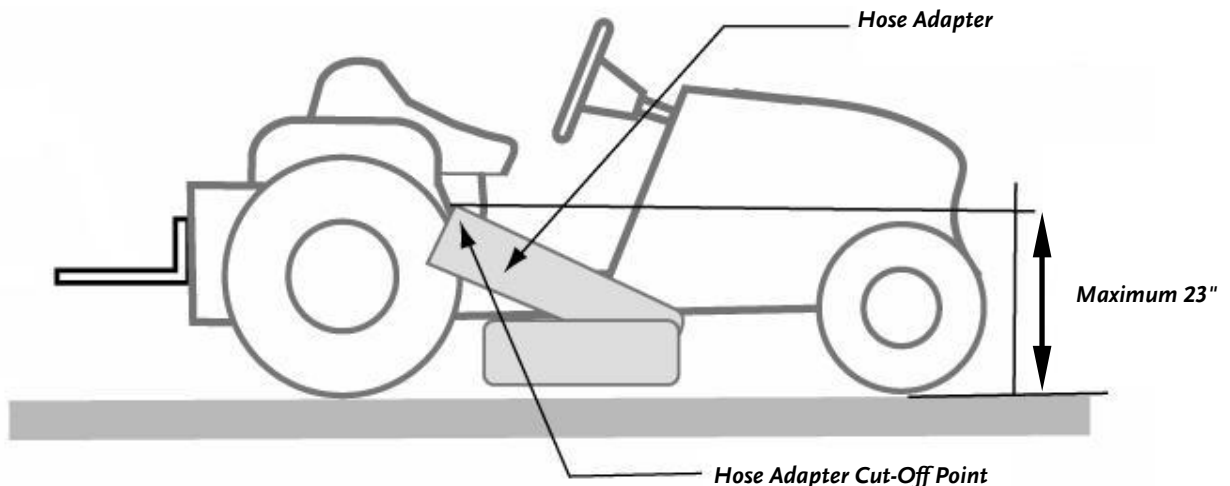

Figure 14
2. Mark the distance of approximately 23" from the ground to the top surface of your lawn deck adapter exit tube (**Figure 14**).
3. Remove the lawn deck adapter from your lawn tractor and using a saw, cut the exit tube of the lawn deck adapter at 90° (**Figure 14**).